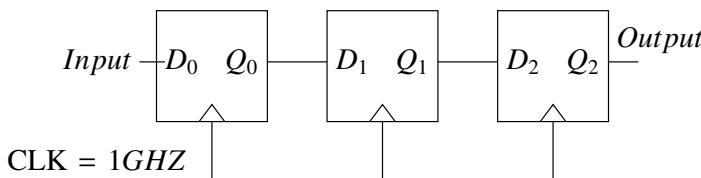

Fig. 5.8
8. Implement the synchronous sequential circuit shown below in Fig. 5.8 with a clock frequency of  $500Hz$ .